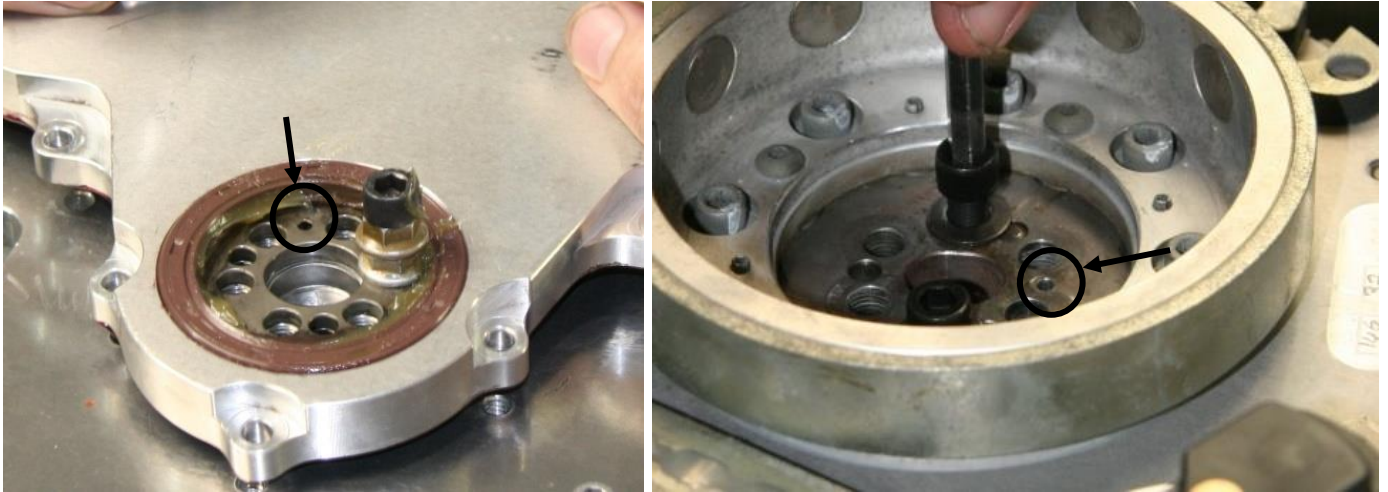

Figure 183 – Flywheel & Crank Timing Marks
- While the engine is still set at 25° before TDC (or as required to set the distributor timing) the flywheel will fit onto the engine with its magnets aligned at the ignition pole positions. For the 2200 engine this means the magnets are pointing to the left and right of the engine. For the 3300 the magnets are at the 1 o'clock, 5 o'clock and 9 o'clock positions. There is also a timing mark (a hole) on the flywheel which aligns to a corresponding hole in the crankshaft gear. Figure 183 refers.